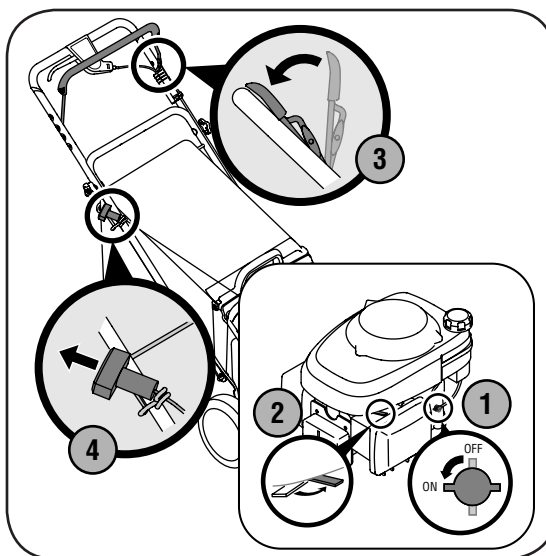

Figure 4-2: The steps involved in starting the mower.
1. Place the fuel valve lever found on the left side of the engine into the ON (OPEN) position. See Figure 4-2.
2. Move the choke lever all the way backward into the choke position. See Figure 4-2.
4. Holding these two handles together firmly, grasp recoil starter handle and pull rope out with a rapid, continuous, full arm stroke. See Figure 4-2. Keeping a firm grip on the starter handle let the rope rewind slowly. Repeat until engine cranks. Let the rope rewind each time slowly.